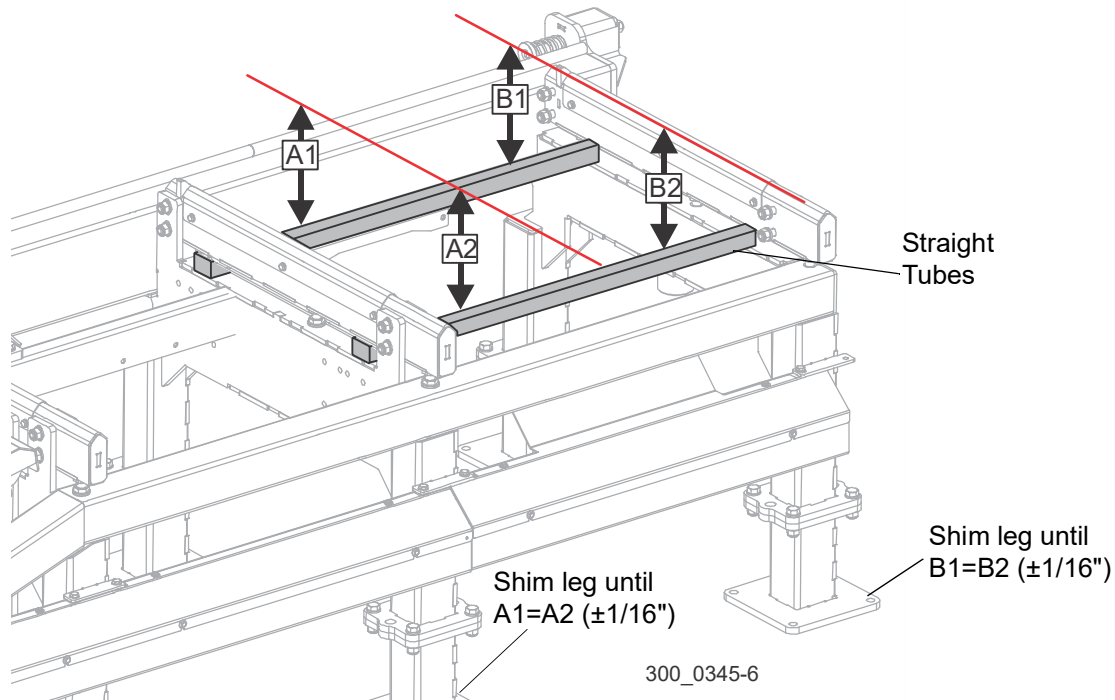

FIG. 3-31
15. Move the straight tubes to the rear two bed rail supports and adjust the two outer rear legs until the bed is level ($\pm 1/16"$ (1.5m)). See Fig. 3-31.